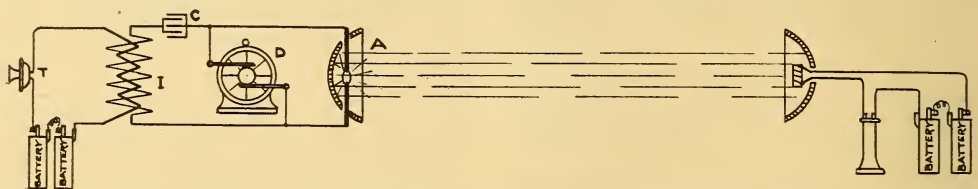

FIG. 2. PRINCIPLE OF THE "SPEAKING ARC."
hear one of them begin to talk, in the voice, perhaps of our best friend. The miracle is brought about in the way shown in Fig. 2. (D) is intended to represent a dynamo or other generator of about 50 volts connected to the two carbons of the arc lamp (A). These same carbons are also connected to the secondary coil of an induction coil (I), the primary of which is connected to an ordinary telephone transmitter